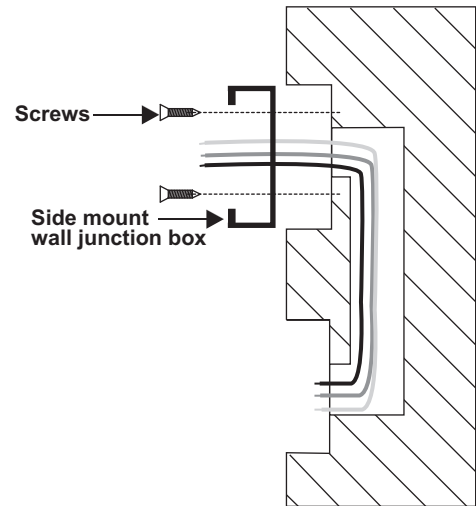

Figure 1
1. Attach junction box securely to building structure. Use provided hardware. Caution: Tighten screws well. (See Figure 1)